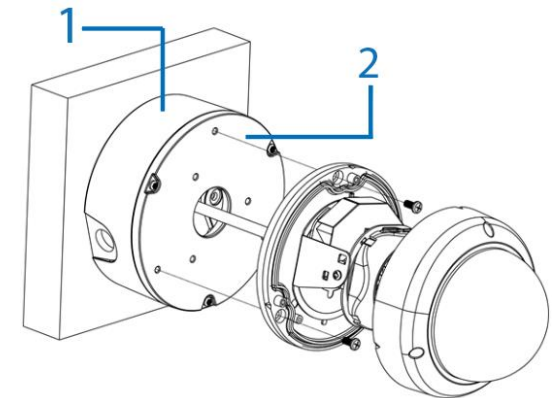

Figure 8
- Insert the three T10 screws into the three holes and use the T10 Torx wrench to securely attach the adaptor plate (2) (Figure 8) to the junction box (1) (Figure 8).